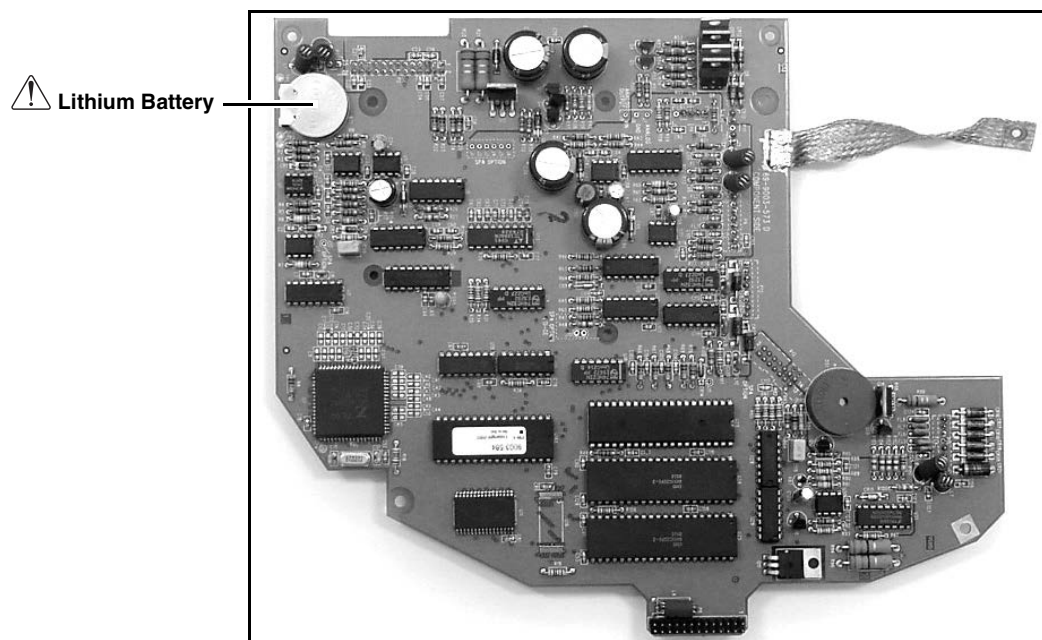

Figure 9-8 Lithium battery
7. Turn the board over and locate the lithium battery on the component side (Figure 9-8). Remove the lithium battery, using care to prevent damage to the circuit board.